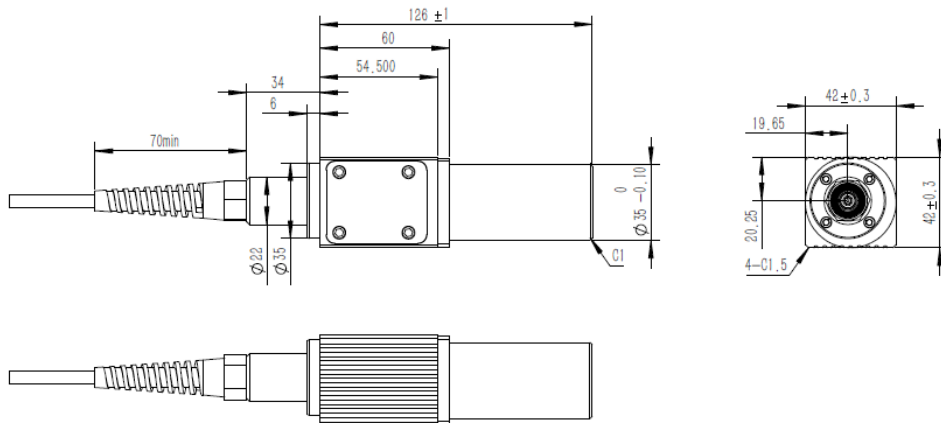

Figure 2. Dimension drawing of output isolator (Unit: mm).
- b) Isolated output head dimensions (As shown in Fig. 2).